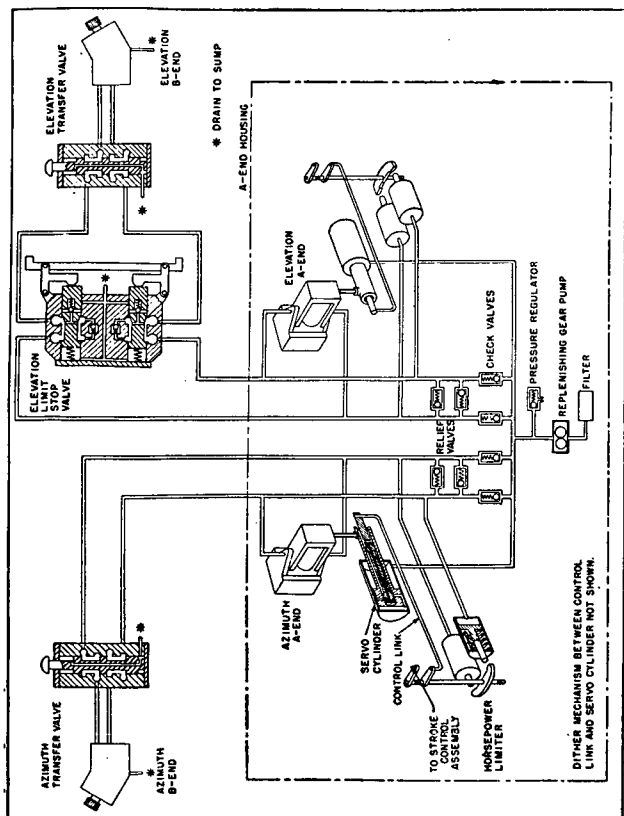

FIGURE 22—Hydraulic system—schematic.
c. Hydraulic system.—The hydraulic system accomplishes the actual moving of the gun. It works as a variable speed rotary drive. (See figs. 22 and 25.)